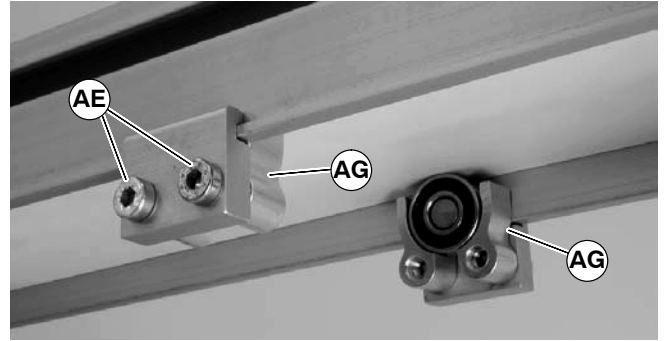

Figure 15
3. Install roller assemblies (AG of Figure 15) as shown. Tighten screws (AE) to 60 in-lb (7 Nm).